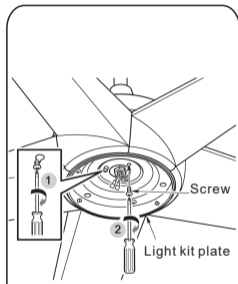

Fig. 21
Step 3: Align the round hole of the light kit plate with light kit adapter, tighten all 3 screws.(Fig. 21)